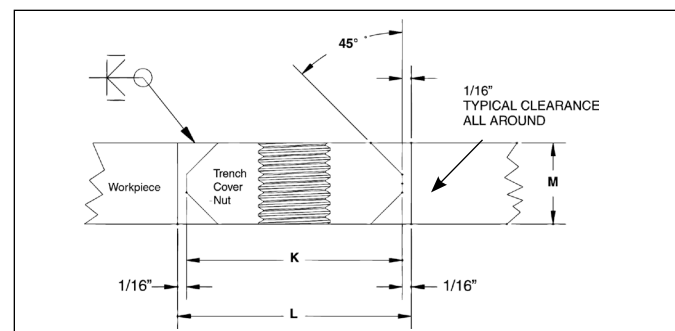

Figure 5
- Insert the trench cover nut into the hole. The trench cover nut should have 1/16" clearance around its outer edge. The surface of the trench cover nut must be parallel and even with the surface of the workpiece (See Figure 5). A welding fixture is available from Crosby for this.